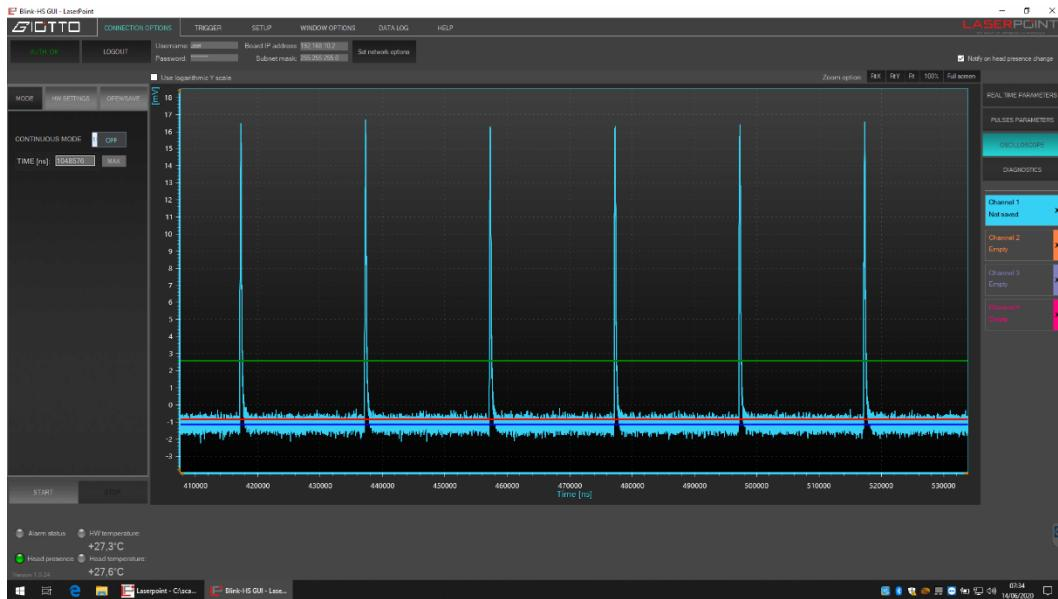

Figure 17
7. Magnified view of the pulse train, after click and drag of the corresponding area (**fig.17**)